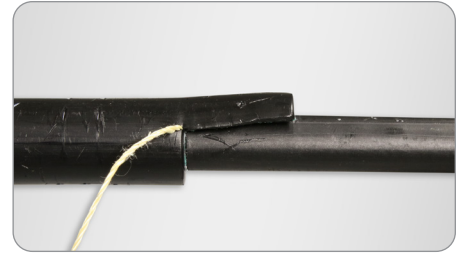

Figure 17
- Armored cables can be bonded using Apex Shield Bond clips. Simply slit cable armor on both sides at approximately 1" and install bonding hardware. (Figure 17)